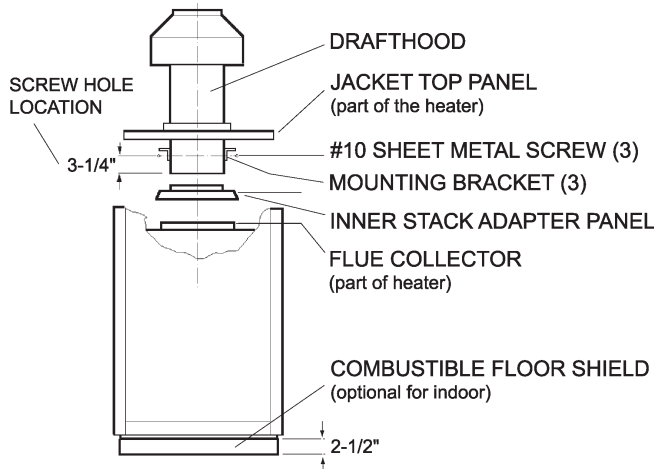

Fig. 10: Indoor Installation—Models 181-401 & 182-400
1. Remove the louvered jacket top by removing four (4) #10 flathead screws.
6. Attach the three (3) mounting brackets to the stack using the screws provided and the holes that are pre-drilled in the stack. **Make sure the brackets are positioned with the flange near the top side of the stack (see Fig. 10). Caution must be taken not to over tighten and strip the screw threads.**
- Turn the assembled stack and jacket top, rightside up. The jacket top will be trapped between the brackets and the top of the stack. Place the stack over the inner stack adapter panel flanged hole and lower the louvered jacket top panel back into its original position. Reinstall the four (4) #10 flat-head screws removed in step 1 above.